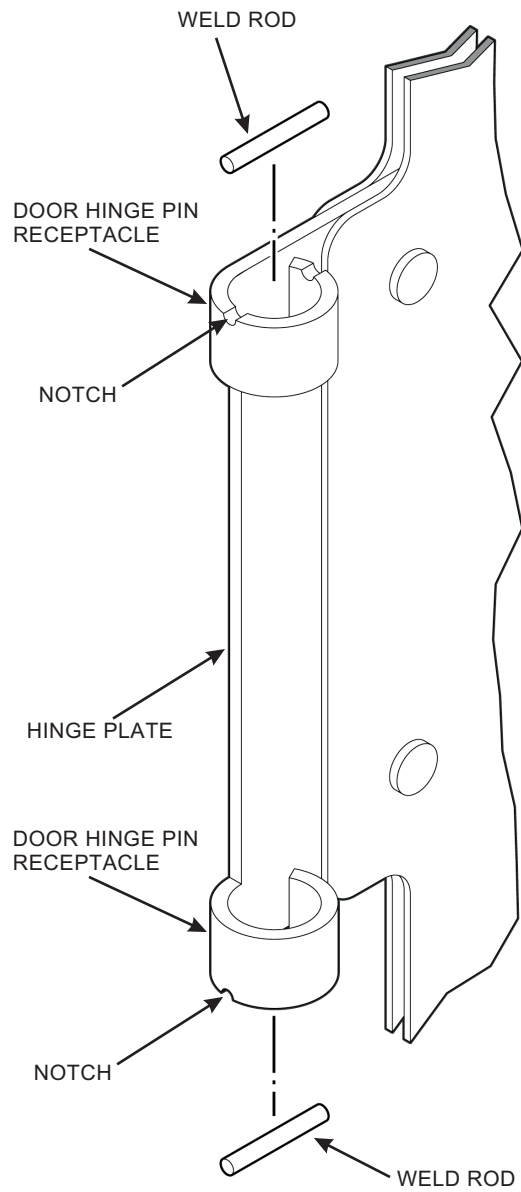

Figure B-292-1. Door Hinge Plate
- c. Remove paint from two pin receptacles of both door hinges. File small notches in outside edges of pin receptacle 180° apart and centered on holes as shown in Figure B-292-1. Do not exceed one half diameter of weld rod.